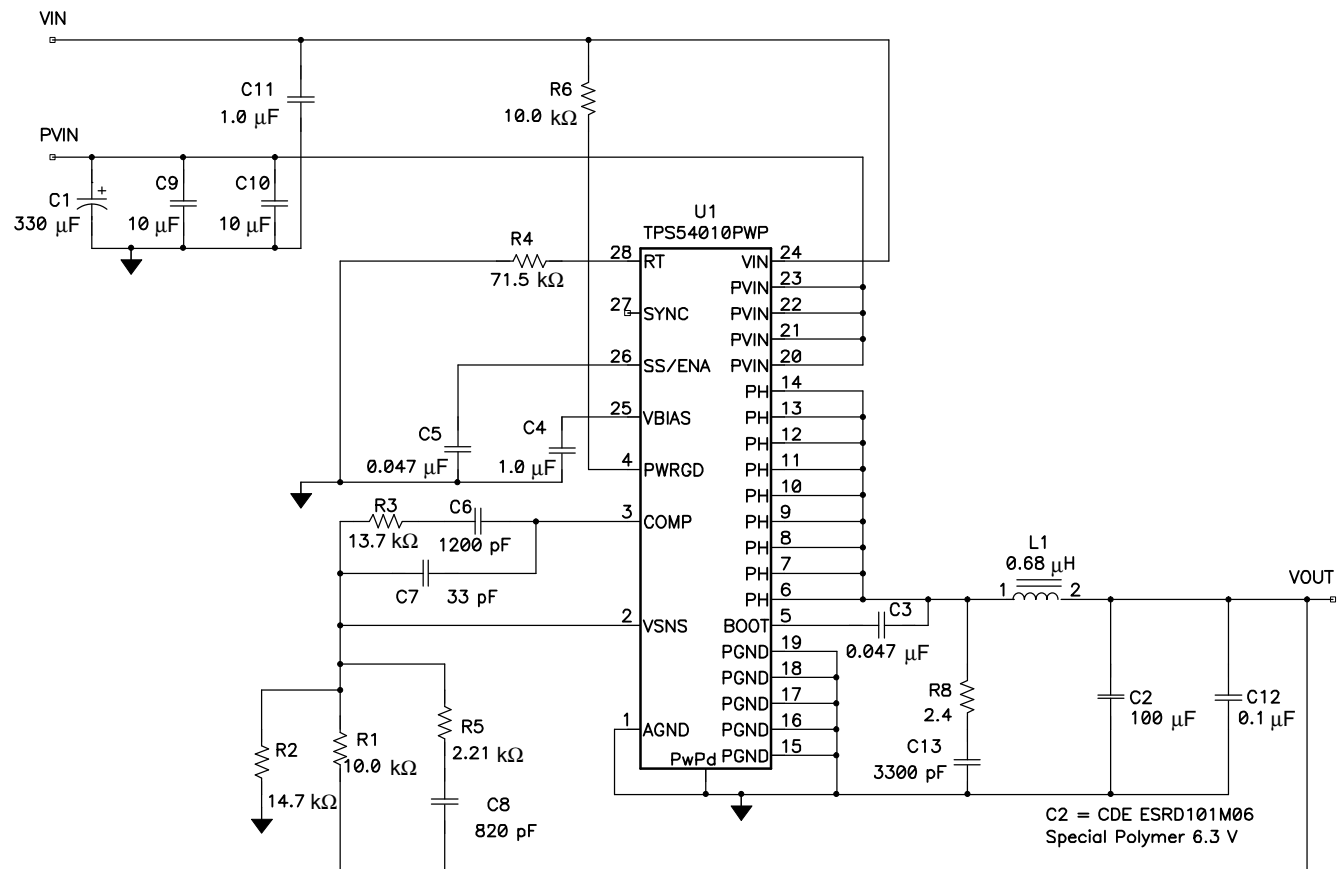

Figure 12. Application Circuit, 2.5 V to 1.5 V
(1) Specified by design
(2) Static resistive loads only
(3) Specified by the circuit used in Figure 12
Figure 12 shows the schematic for a typical TPS54010 application. The TPS54010 can provide up to 14-A output current at a nominal output voltage of 1.5 V. Nominal input voltages are 2.5 V for PVIN and 3.3 V for VIN. For proper thermal performance, the exposed PowerPAD underneath the device must be soldered down to the printed-circuit board.